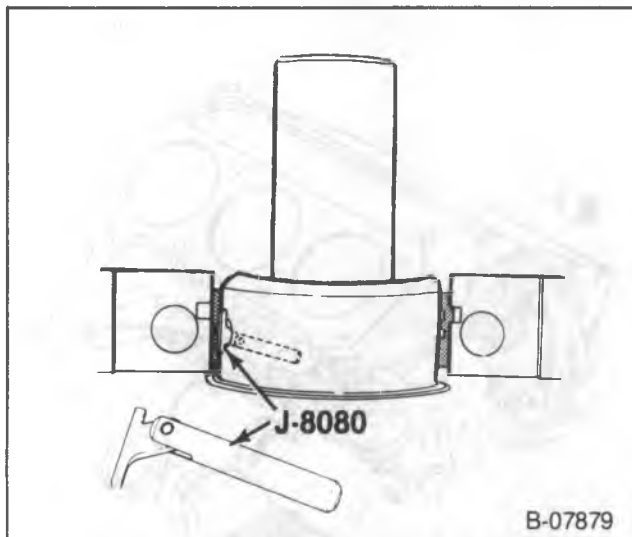

Figure 17—Removing or Installing the Main Bearing Insert
- Insert J 8080 into the crankshaft oil hole (figure 17).